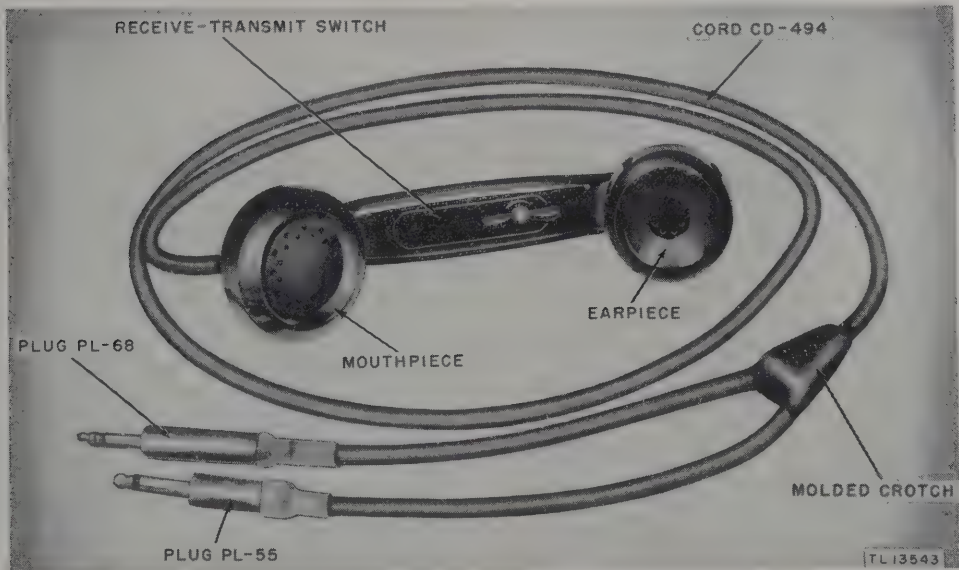

Figure 25. Handset H-23(*)/U.
a. HANDSET H-23-(*)/U (fig. 25). This is a formed plastic handset containing a single-button carbon microphone at the connection cord end. The earpiece and the microphone are connected to Plugs PL-55 and PL-68, respectively. The microphone is connected into the circuit by operating the receive-transmit push-to-talk switch. This handset normally is used by the radio set operator for all normal communications. Instead of Handset H-23-(*)/U, Handset TS-13-(*), was issued with the unlettered models and Handset TS-15-(*), was issued with the A models of these equipments. All three types are similar.